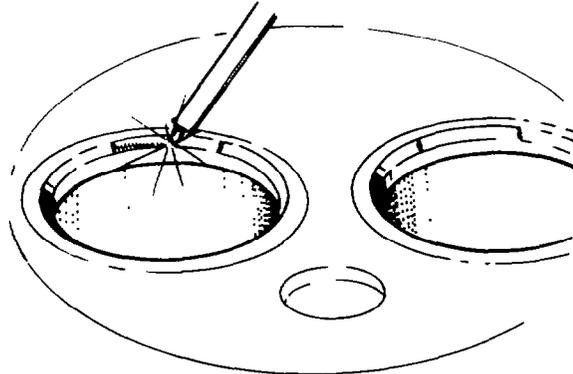

Fig. 27 — Removing Valve Seat Inserts
- a. Remove the valve seat insert by running a bead of weld on the angled face of the valve seat, using an arc welder. This will cause the valve seat to shrink enabling easy removal of the seat (see fig. 27).